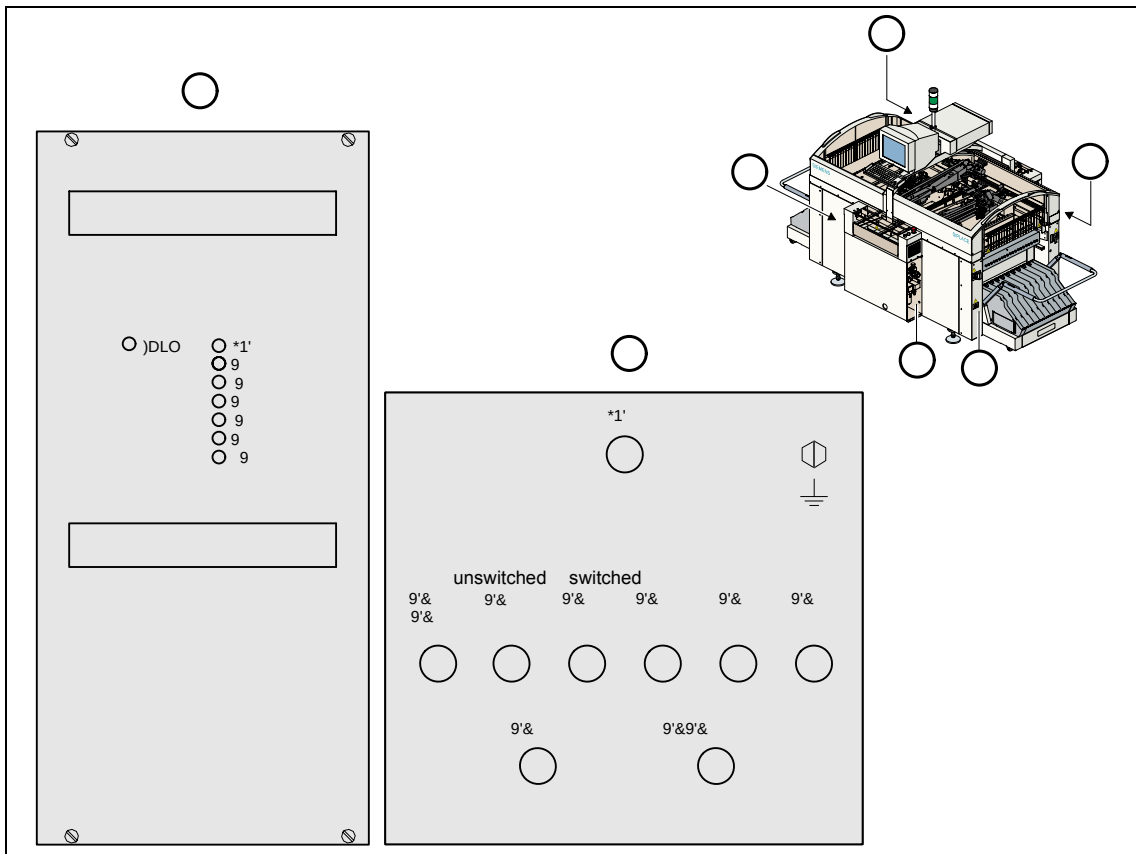

Fig. 2.7 - 1 Position of the control unit, servo unit, main switch, service socket and compr. air unit in the placement system
Servo unit (item 7 in Fig. 2.7 - 1)
Control unit (item 6 in Fig. 2.7 - 1)